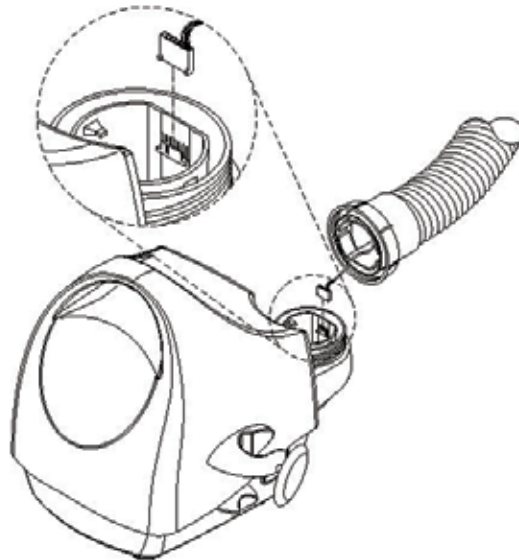

Figure 3. Hose replacement
5. Using the needle-nose pliers, carefully detach the cable connector from the header plug located inside the hose connector (see Figure 3. Hose replacement).